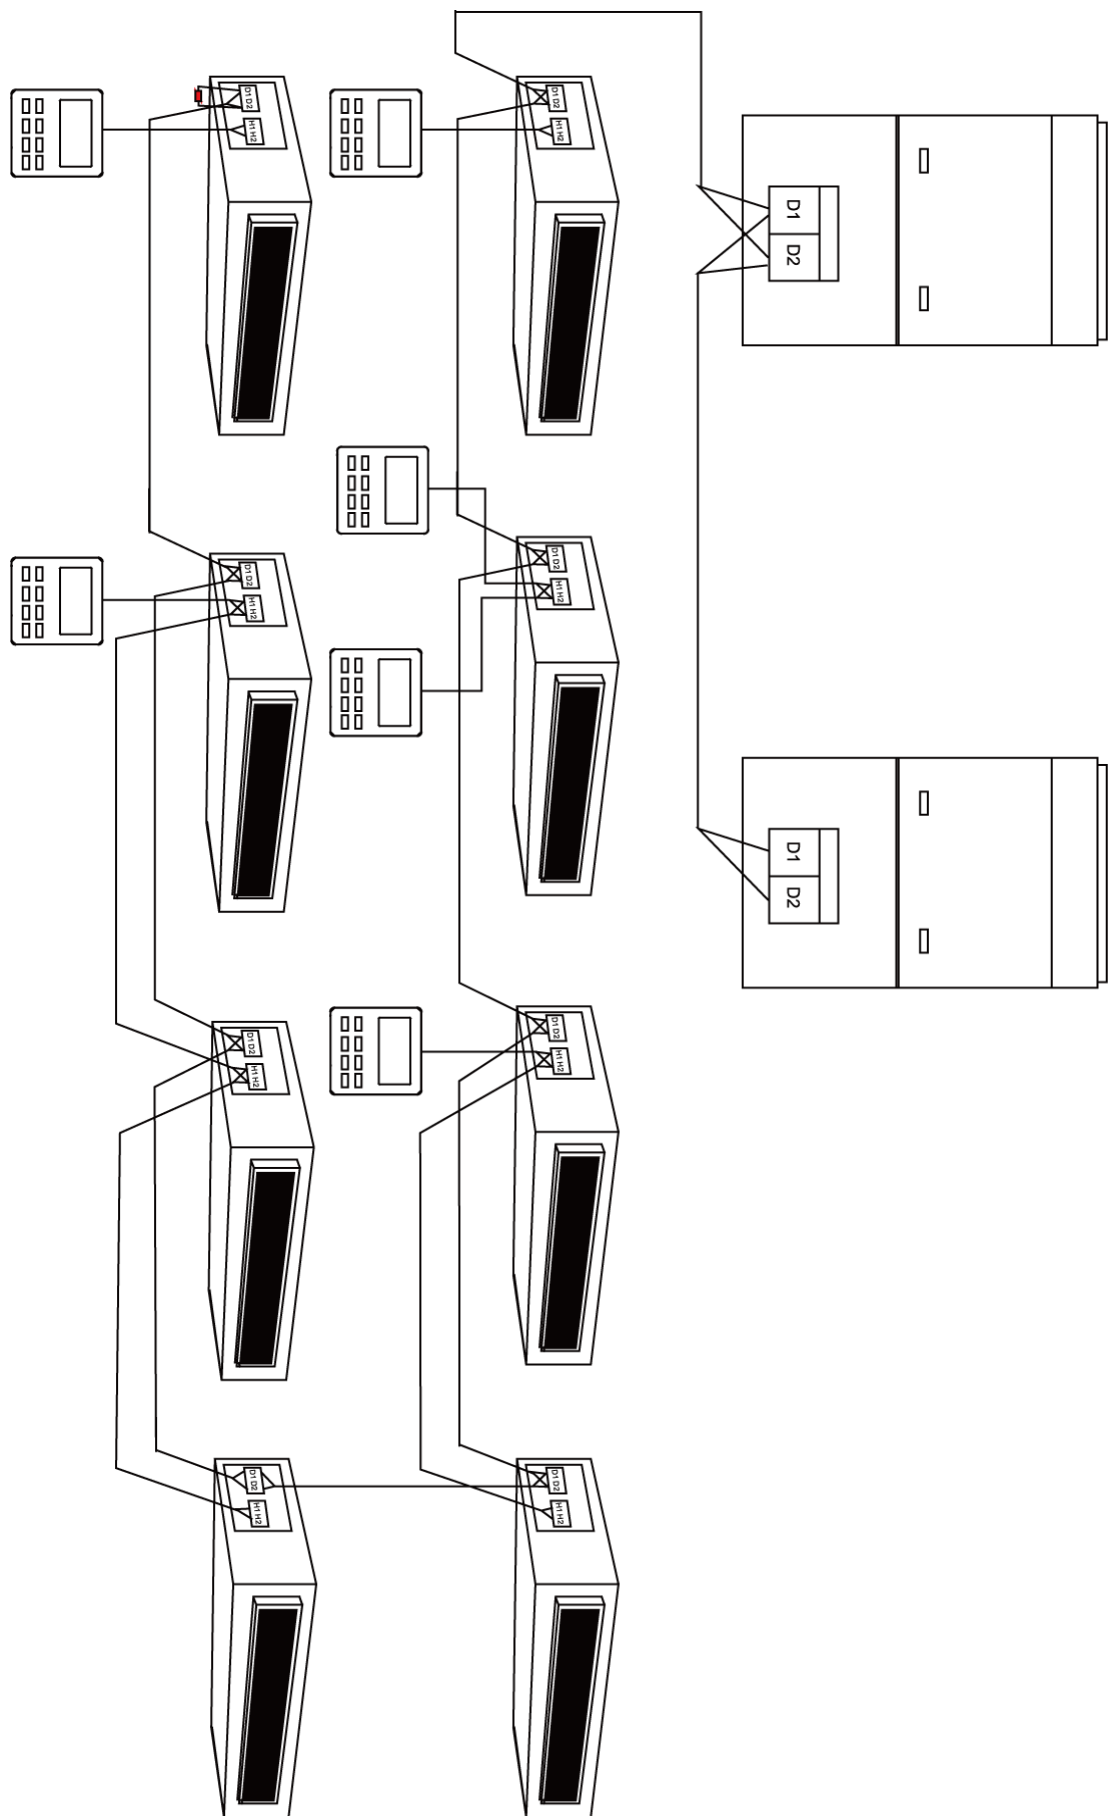

Fig 5.5
- (1) Communication wire of indoor unit and outdoor unit (or indoor unit) is connected to D1, D2.
- (2) Wired controller is connected to H1, H2.
- (3) One indoor unit can connect two wired controllers that must be set as master one and slave one.
- (4) One wired controller can control 16 indoor units in maximum at the same time (As shown in fig5.5).